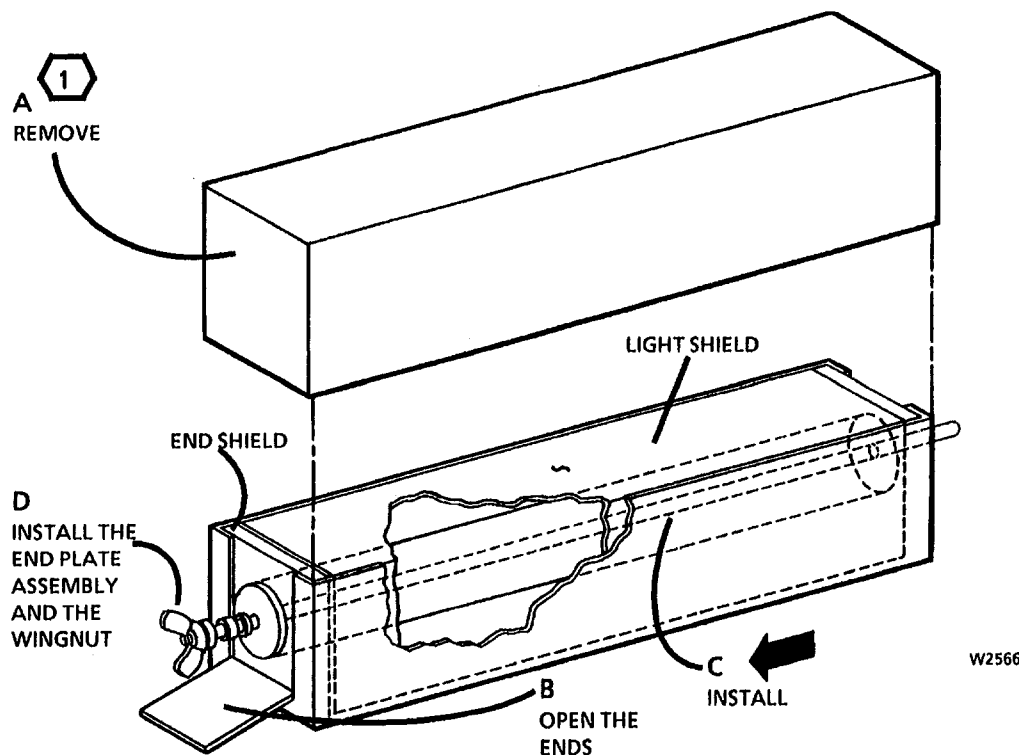

Figure 2. Install the Assembly Shaft
1. (Figure 2): Install the Photoreceptor Assembly Shaft